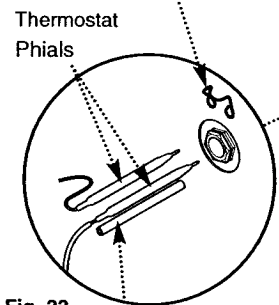

Fig. 33
2. After noting their position remove the wires from the thermostat body. Turn the thermostat knob fully anticlockwise and pull it off (Fig. 33).
4. Pull the spring clip off the thermostat pocket. Withdraw both the boiler and overheat thermostat phials and the spacer tube from the pocket (Fig. 33).